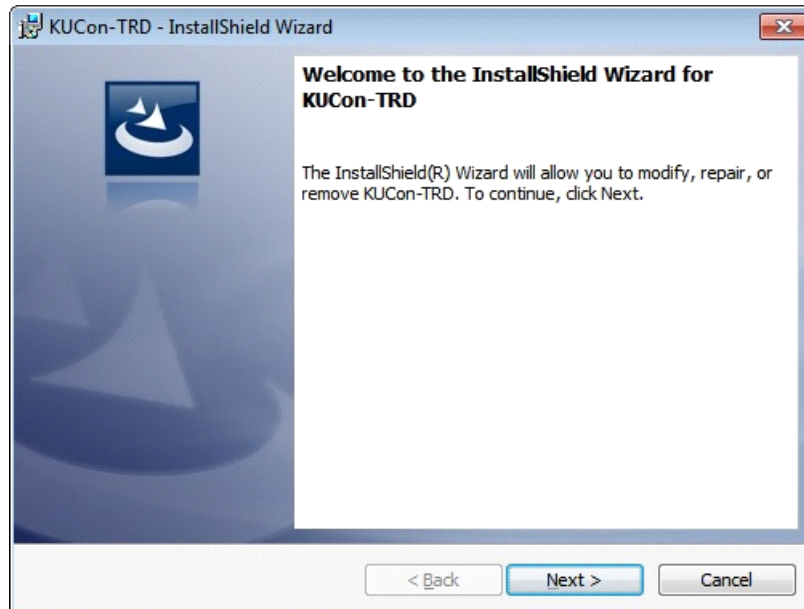

Figure 3-20: Successful Removal of the Drivers
5. Click **Next** after the InstallShield Wizard opens up, as shown in Figure 3-20.